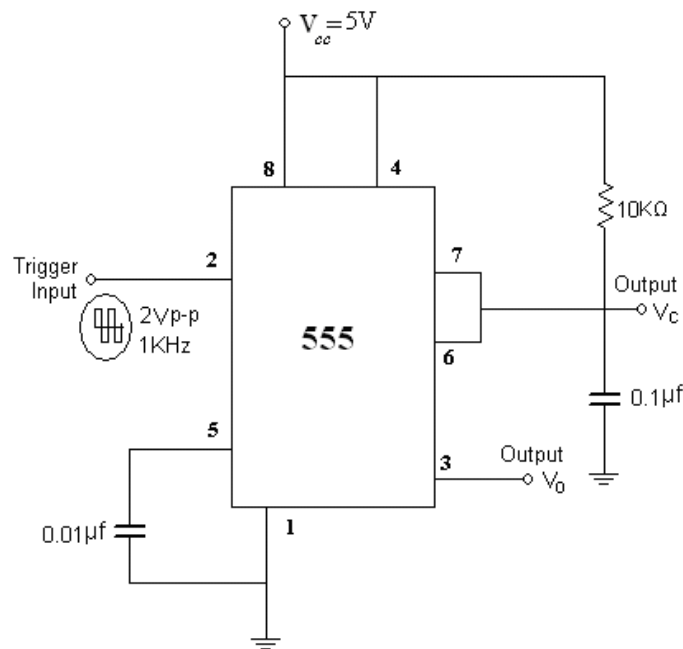

Fig 1: Monostable operation
1. Connect the circuit as shown in the circuit diagram as shown in Fig 1.